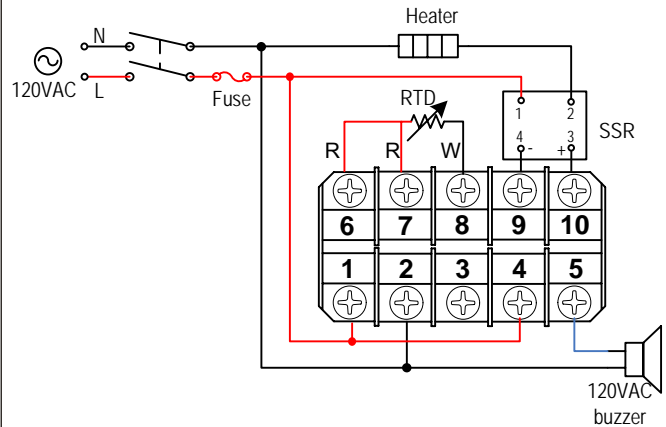

Figure 12. Typical wiring for high precision control set up. It shows how the RTD sensor and SSR should be wired.
a. Wiring diagram, see Figure 12.